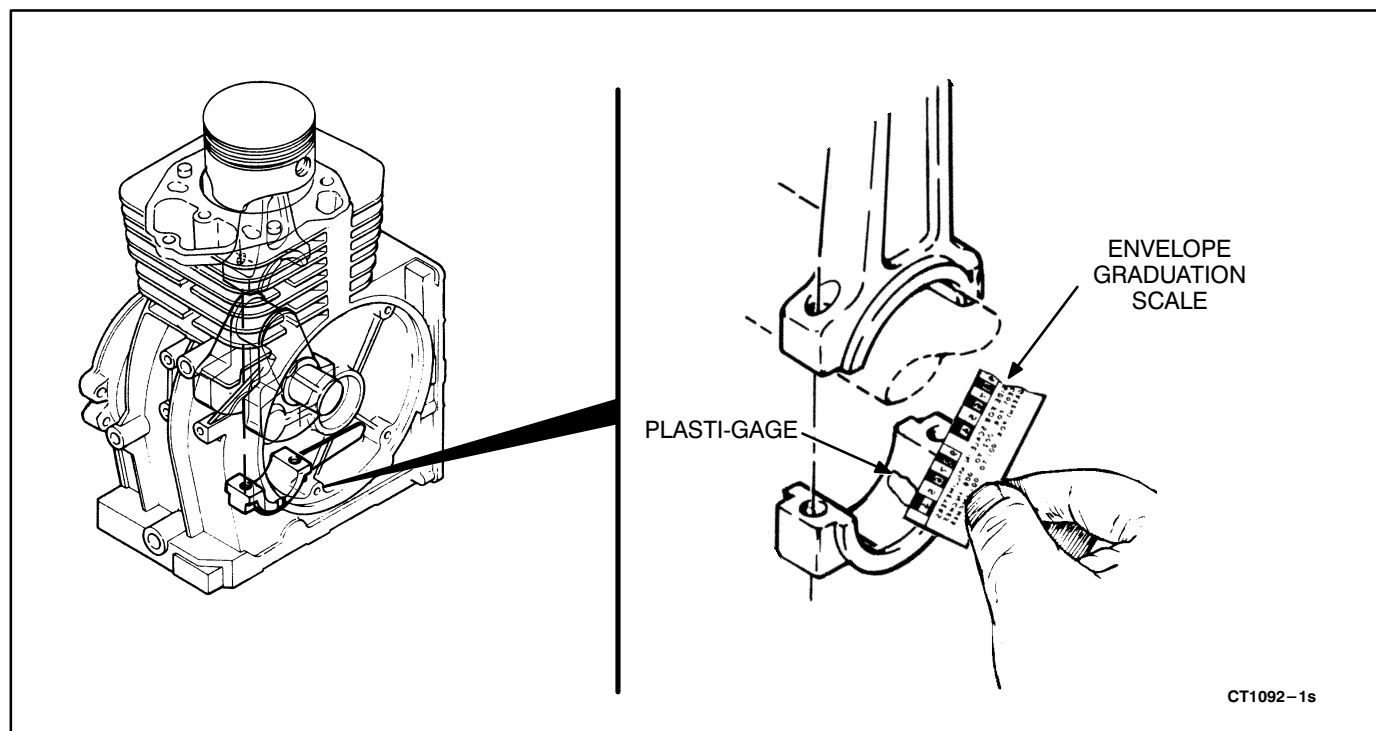

FIGURE 10-36. MEASURING CRANKPIN CLEARANCE
2. Place a piece of the correct size Plasti-gage across the full width of the rod cap about 1/4 inch (6 mm) off center (Figure 10-36).